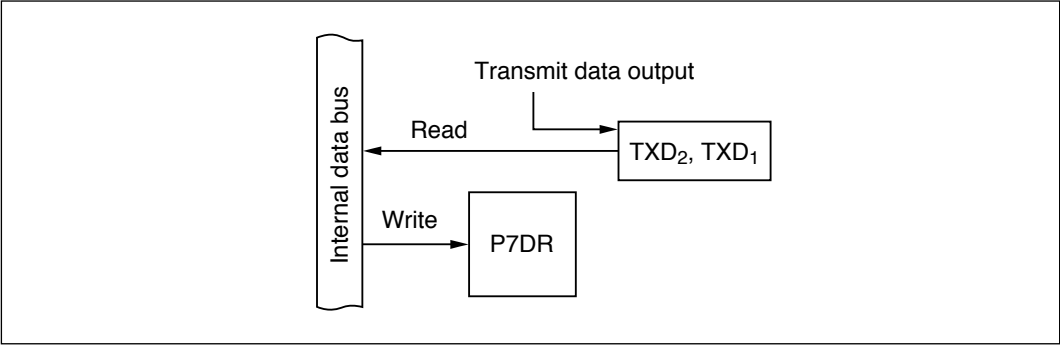

Figure 9-48 TXD₂ and TXD₁ Output (Modes 1 to 7)
(5) TXD₂ and TXD₁ Output (P7₄ and P7₂: Modes 1 to 7): Figure 9-48 shows a block diagram illustrating the TXD₂ and TXD₁ output function. Table 9-38 indicates register read/write data. When P7₄ and P7₂ are used for TXD₂ and TXD₁ output, the value written in P7DR is ignored, but P7DR can be read to monitor the levels at the TXD₂ and TXD₁ pins.